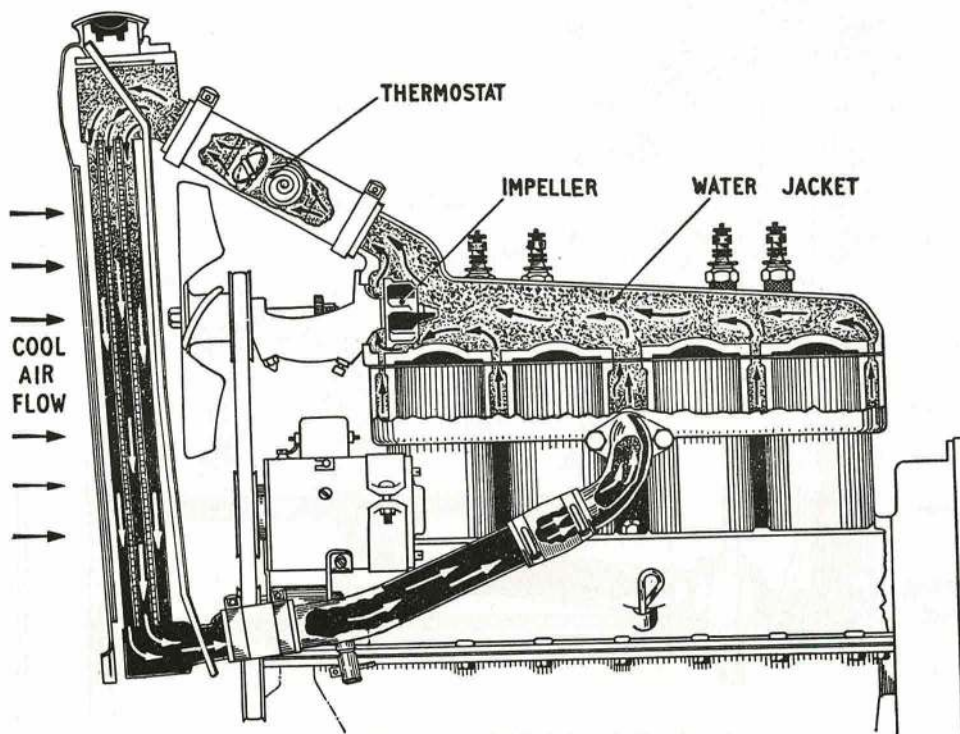

Fig. 4. IMPELLER TYPE COOLING SYSTEM
9. The speed of circulation of the cooling water in the thermo-syphon system may be too slow for certain applications, but this trouble can be overcome by the use of an impeller assisted system (Fig. 4). This is a modification of the thermo-syphon system, in that to assist circulation, an impeller is